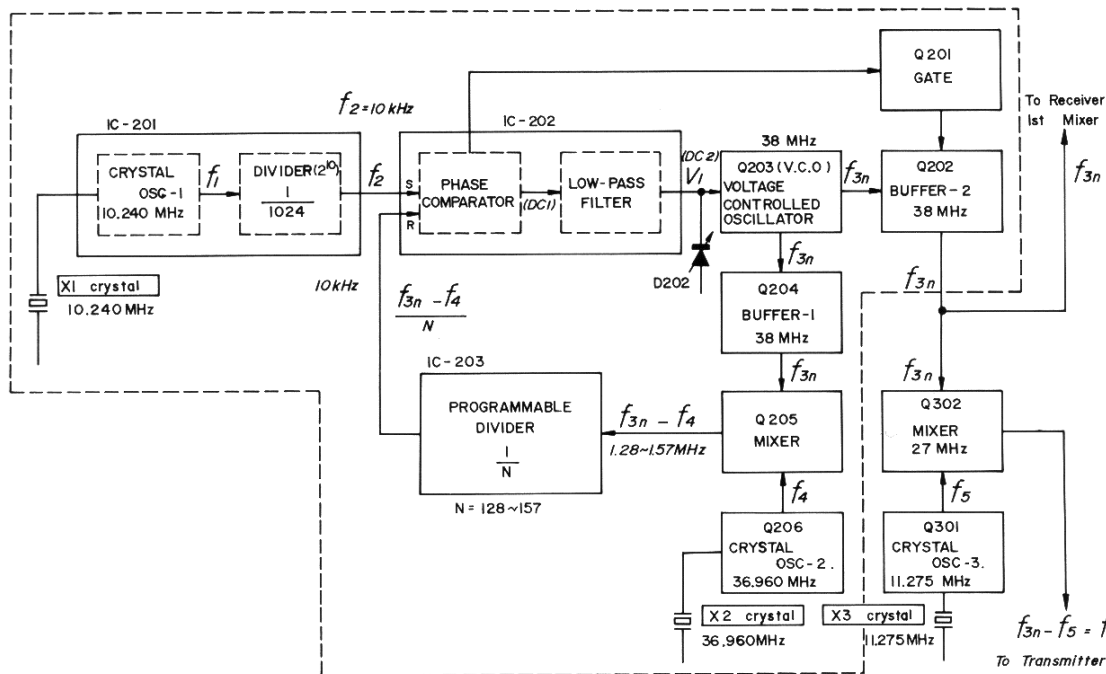

Figure 2 P.L.L. CIRCUIT FREQUENCY SYNTHESIZER
A DESCRIPTION OF PHASE-LOCKED-LOOP (P.L.L.) CIRCUIT (Figure 2)
the voltage controlled oscillator (or V.C.O.) Q203, the buffer amplifier Q204, the mixer Q205 and the programmable divider IC-203 as shown in Figure 2.
3) Frequency Determining (Refer to Figure 2)